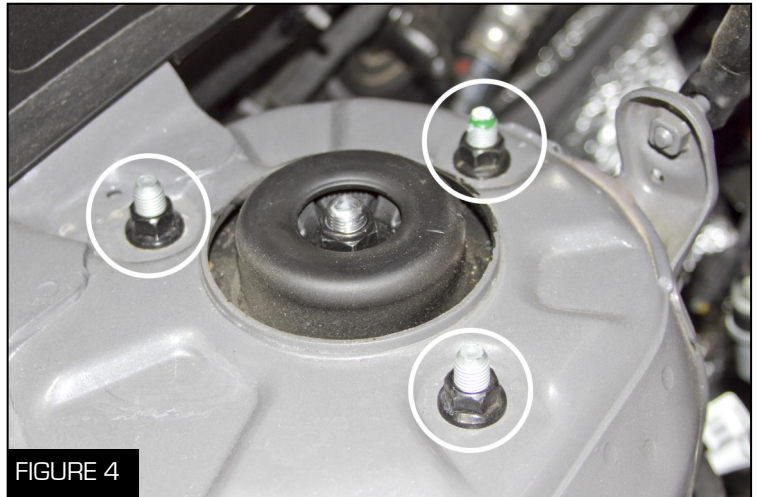

FIGURE 4
4. Unbolt the (3) nuts from the stop of the strut using the 14 mm socket wrench and remove the suspension from the car (Figure 4)